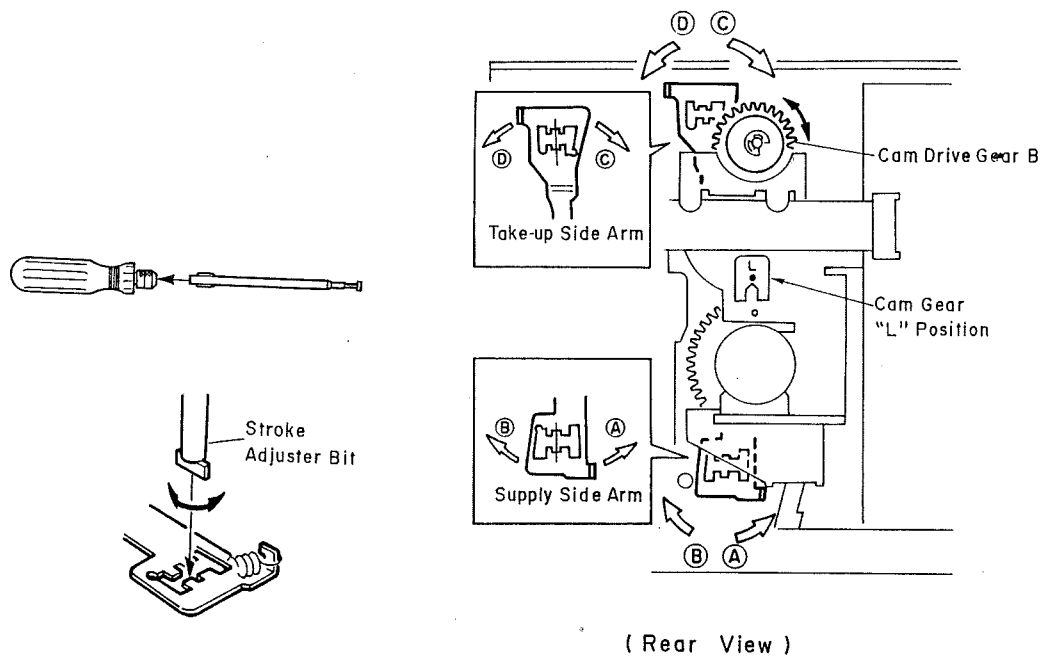
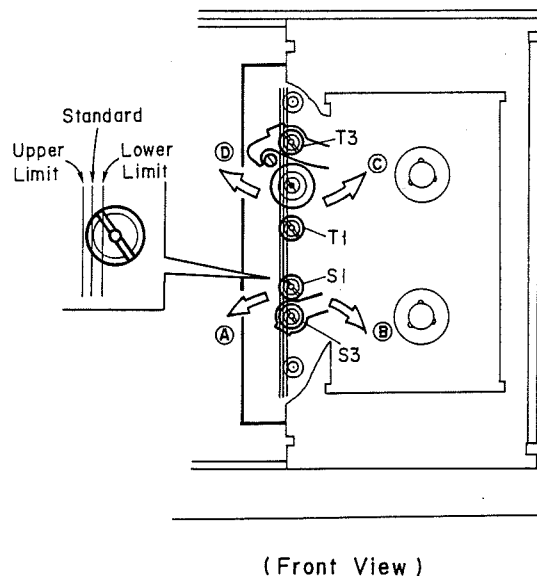

Fig. 6.9
Fig. 6.10
7. Insert a Stroke Adjuster Bit (which is installed on the Adjuster Grip) into the Take-up Side Arm/Supply Side Arm as shown in Fig. 6.9, and slightly turn it so that the guide rollers S3, S1, T1 and T3 are within the upper and lower limit scribed lines on the Stroke Check Gauge. See Fig. 6.10. When you turn the Stroke Adjuster Bit in the direction of A or B in Fig. 6.9, the guide rollers move in the direction of A or B in Fig. 6.10. On the other hand, if you turn the Stroke Adjuster Bit in the direction of C or D in Fig. 6.9, the guide rollers move in the direction of C or D in Fig. 6.10.